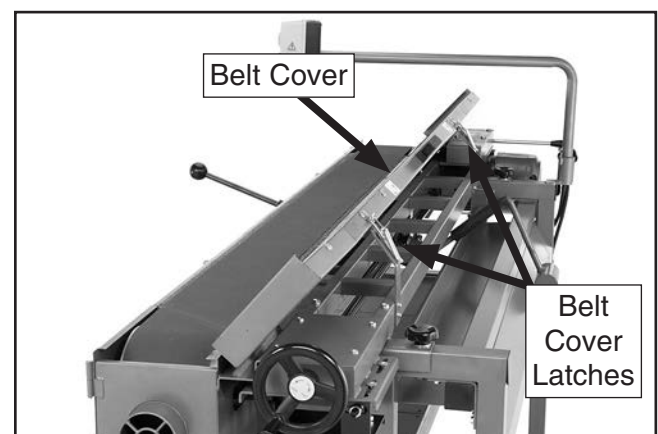

Figure 41. Belt cover latched open.
- Release the belt cover latches to open the belt cover, then secure it in the open position using the two latches shown in **Figure 41**.